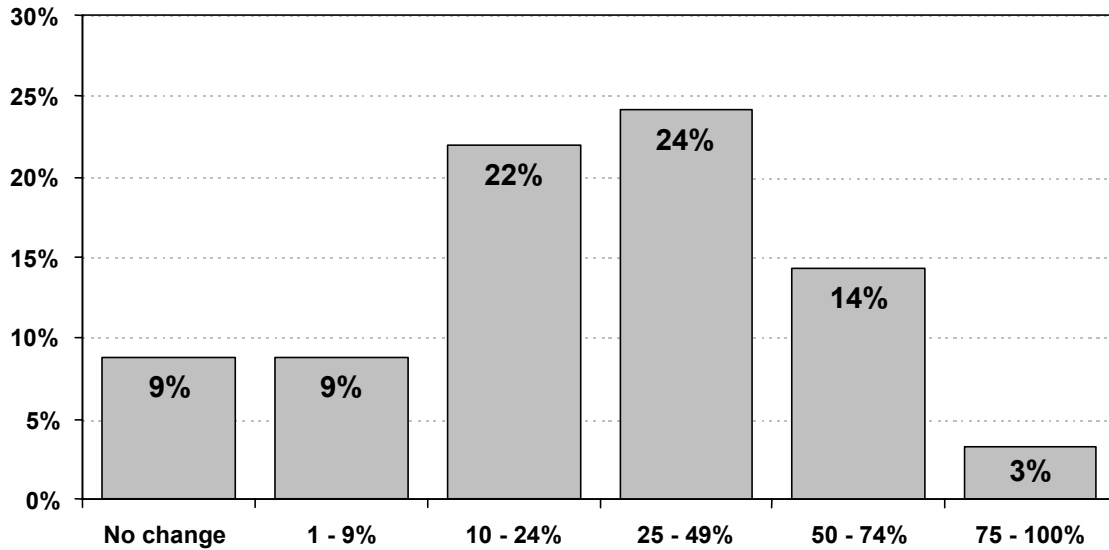

Figure 5. Answers to the 2003 Revit survey question "During your initial training period on Autodesk Revit, what was your estimated productivity loss?"
Productivity loss (D) — Users generally experience a dip in productivity as they get used to a new system. In the 2003 survey, Revit users reported that on average they experienced a 50 percent loss in productivity during their training time (*Figure 5*).